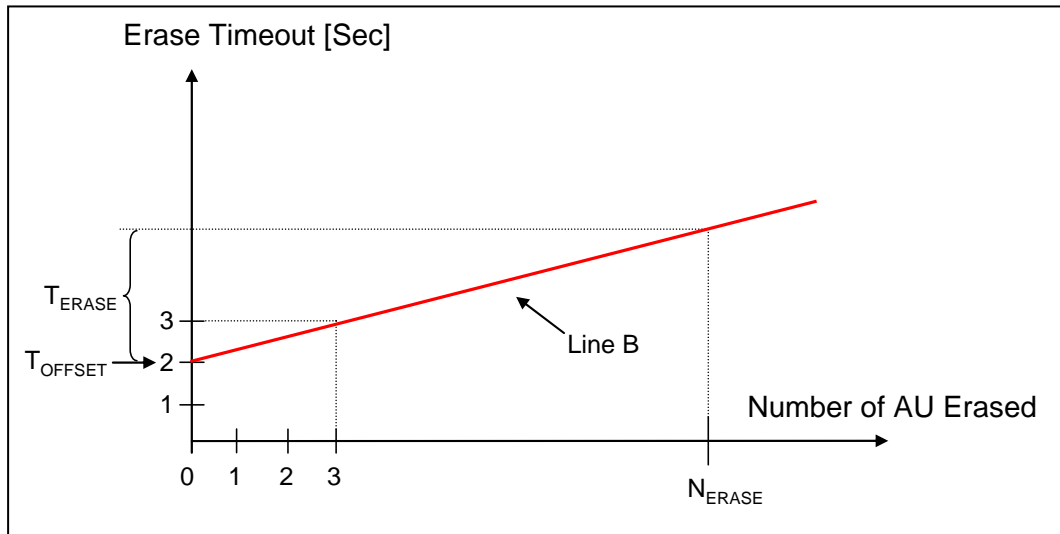

Figure 4-11: Example Erase Characteristics (Case 2 $T_{\text{OFFSET}}=2$)
This 2-bit field indicates the T_{OFFSET} and one of four values can be selected. The erase offset adjusts the line by moving in parallel on the upper side. Refer to Figure 4-11 and Equation (6) in 4.14. This field is meaningless if ERASE_SIZE and ERASE_TIMEOUT fields are set to 0.
The line B illustrated in Figure 4-11 shows another example of erase characteristics. The red line indicates the erase timeout value that the host should use. Since the time-out is bigger than 1 second, the red line and line B are equivalent.